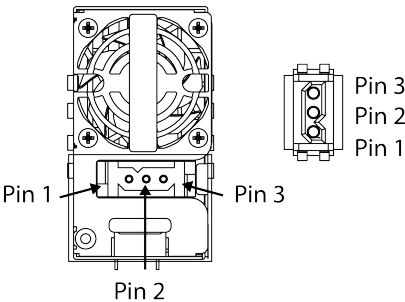

Figure 36: Connecting the DC Power Cord
3. Position the DC power cable connector so that the wide, flat side is closest to the fan, as shown in Figure 36. The DC power cable connector can only connect to the power supply one way.